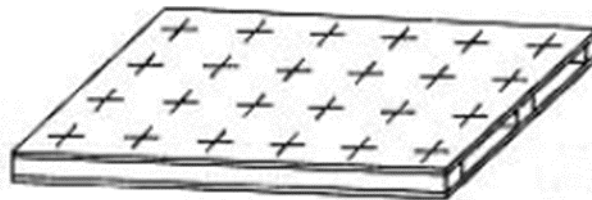

Figure Q 5(B) Pallet for placing components
- 5B.** A Robot must pick up the components from incoming conveyor system and place on different locations of the pallet as shown in the figure Q 5(B).The spacing between dropping location is 20 cm in both x and y directions. Using the appropriate commands write the complete compact robot program to achieve this task efficiently using *loop commands only*. Assume suitable variable locations. **(04)**